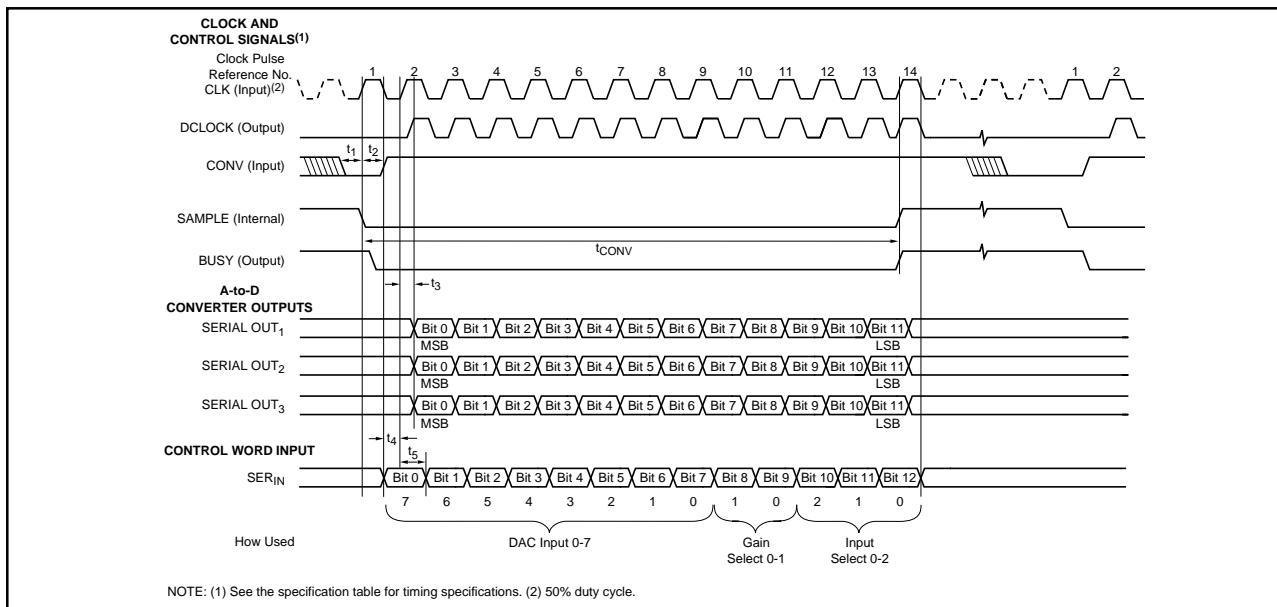

FIGURE 2. Timing Diagram.
The ADS7833 contains seven sample holds. Five of them (SH1 through SH5) sample simultaneously and have their sample/hold timing internally synchronized. (The timing is shown in Figure 2).
An 8-bit DAC provides 256 output voltage levels from 0V to 2.5V (see Table V for input/output relationships). The DAC is controlled by the DAC Input portion of the input setup word. The DAC Input portion of the word is strobed into the DAC at the end of the conversion cycle (14th CLK pulse in Figure 2).
Sampling and conversion is controlled by the CONV input (see Figure 2). The ADS7833 is designed to operate from an external clock supplied at the CLK input. This allows the conversion to be done synchronously with system timing so that transient noise effects can be minimized. The CLK signal may run continuously or may be supplied only during convert sequences. The BUSY and DCLOCK signals are internally generated and are supplied to make interfaces with microprocessors easier (see Figures 2, 4, and 6).
Configuration information for these parameters is contained in the SERIN word (See Figure 2). As one conversion is taking place, the configuration for the next conversion is being loaded into the buffered Input Setup Register via the SERIN word. Table I shows information regarding these parameters.
NOTE: (1) See Figure 2. "Clock Pulse Reference No."
The PGA gain is determined by the Gain Select portion (bits 8 and 9) in the SERIN word (see Figure 2). There is one gain input that sets the same gain for all three PGAs. The gain values and allowable full scale inputs are shown in Table II.
The Input Select portion of the SERIN word (bits 10, 11 and 12) (see Figure 2) are decoded and determine the open/closed condition of the multiplexer switches. This in turn determines which input signals are connected to the sample holds and which sample holds are connected to the PGAs/ADCs.
The value of the DAC output voltage is determined by the DAC Input portion of the SERIN word (bits 0 through 7—see Figure 2). The 8-bit DAC has 256 possible output voltages from 0V to +2.49V. The value of 1 LSB is 0.0098V.